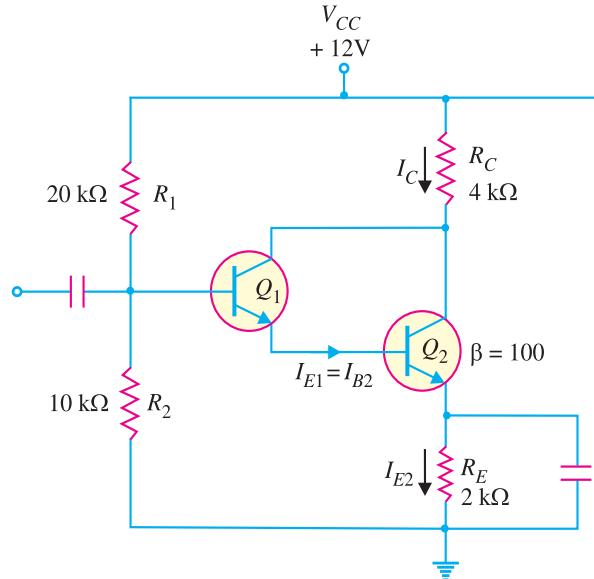

Fig. 13.29
**Example 13.25.** For the Darlington amplifier in Fig. 13.29, find (i) the d.c. levels of both the transistors and (ii) a.c. emitter resistances of both transistors.